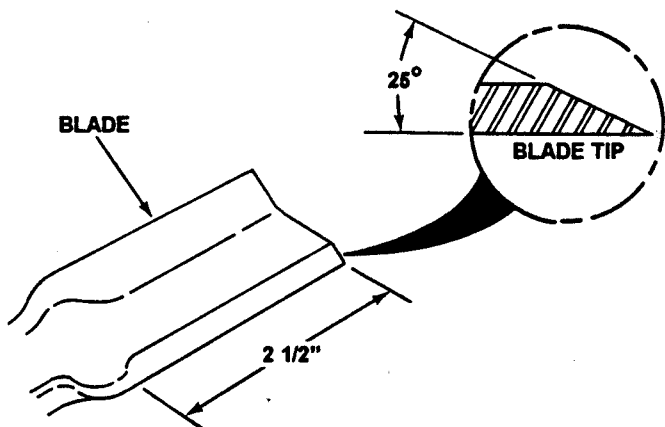

FIGURE 4.7
3. If blade is in good condition, sharpen at 25 degrees. DO NOT sharpen beyond existing cutting edge. See Figure 4.7.